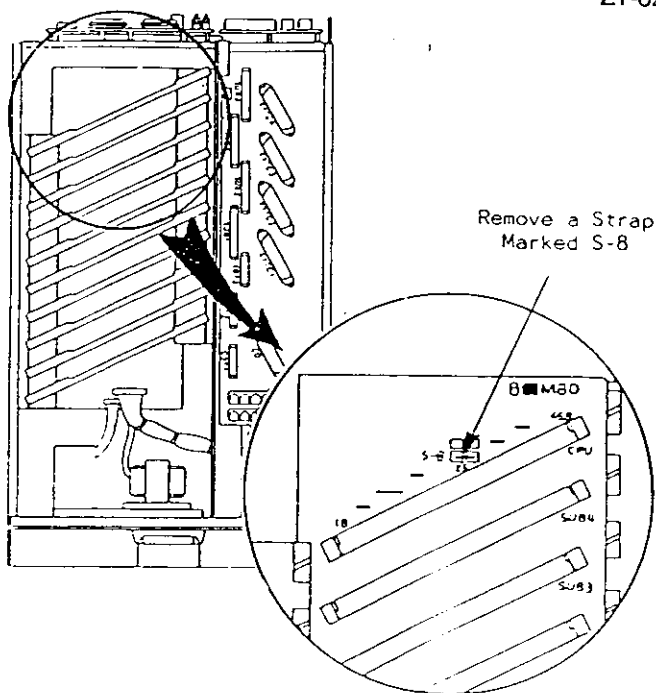

FIGURE S-1 MOTHERBOARD MODIFICATION
2. Cut off a solid strapping wire marked S-8 above the middle of the CPUHW card connector as illustrated in Figure S-1.